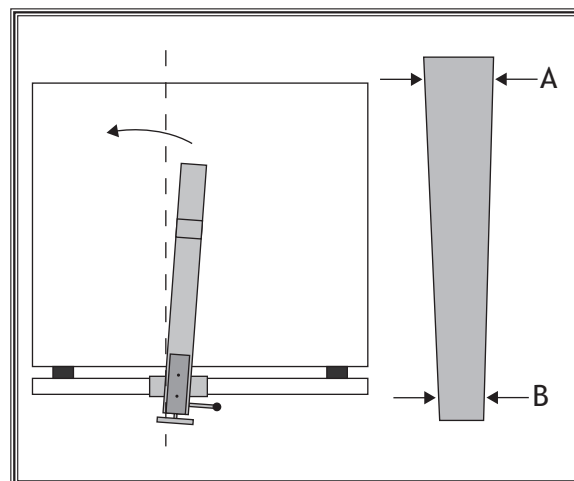

Figure 31. Adjusting fence to the left.
- If end A (**Figure 31**) is wider than end B, then the tip of the fence needs to be adjusted to the *left* to make the fence parallel to the blade.